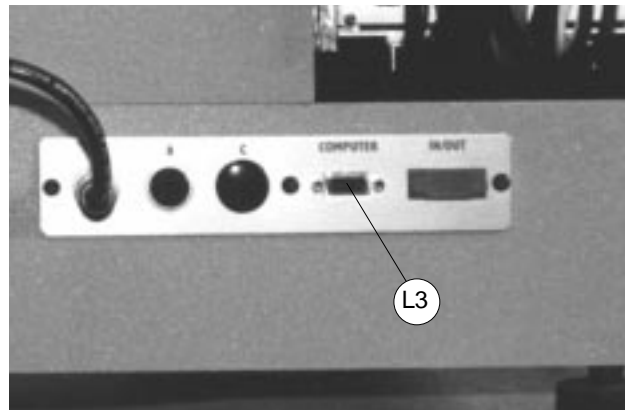

Fig. 10
- Connect the personal computer and QUATTROCODE with the serial cable provided. Make the connection between the personal computer serial port and the connector (L3) on the Quattrocode (fig. 10).